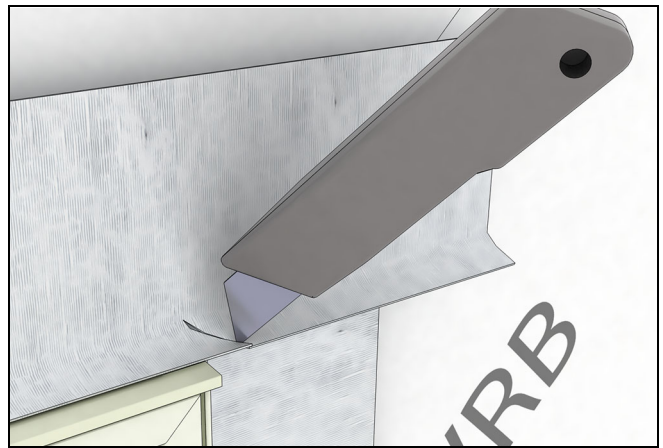
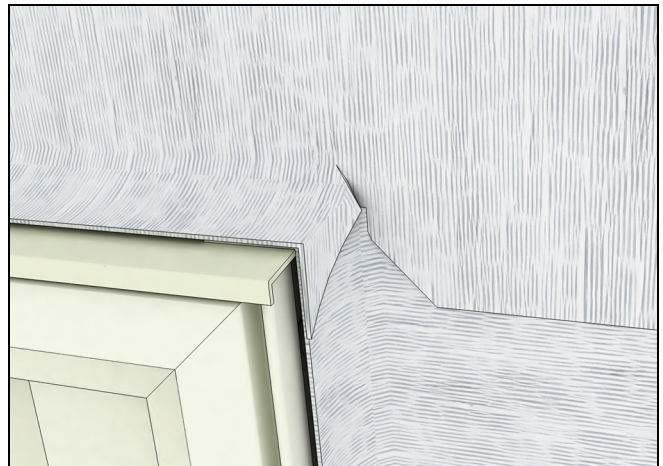

Figure 65
Figure 66
7. Install another layer of adhesive membrane lapping onto the rigid head flash of the window and over the sheathing. The membrane flashing at the head jamb should extend and cover the flashing previously installed at the jambs. Make relief cuts and fold down so the that it wraps around the jamb. See Figure 65 and Figure 66.